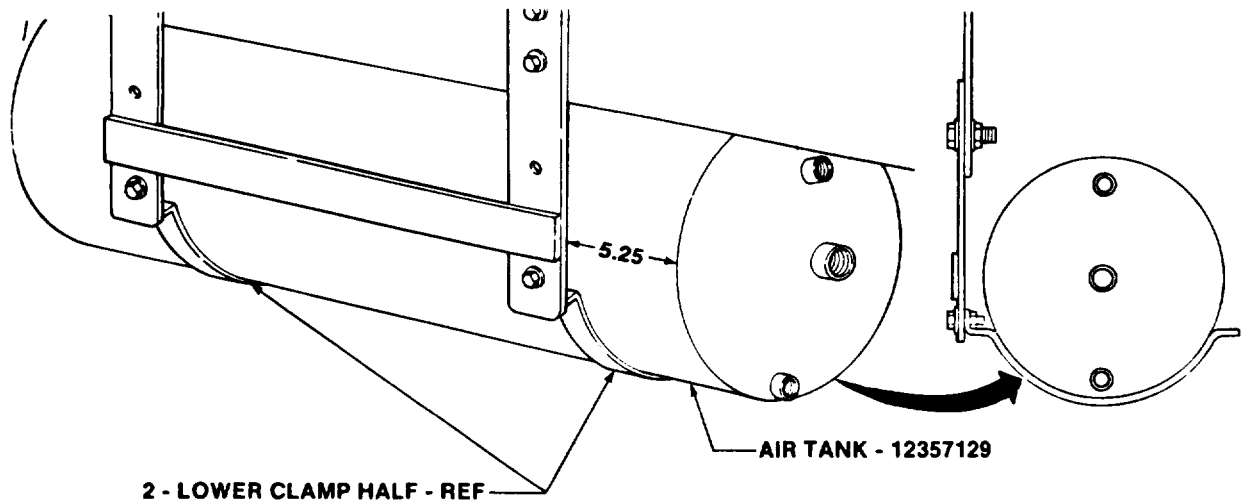

FIGURE 10
When installing air tank on clamp, ensure air tank is positioned as shown in figure 10.
(1) Position 12357129 air tank in lower half of two clamp assemblies as shown in figure 10.
Ensure the 5.25-inch measurement is made as shown in figure 10 prior to performing step 4.